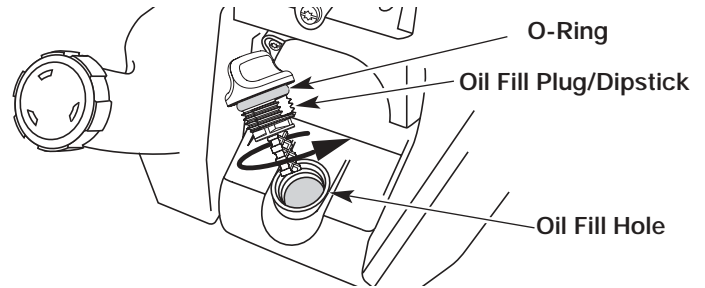

Fig. 19
**NOTE:** Make sure the O-ring is in place on the oil fill plug/dipstick when checking and changing the oil (Fig. 19).